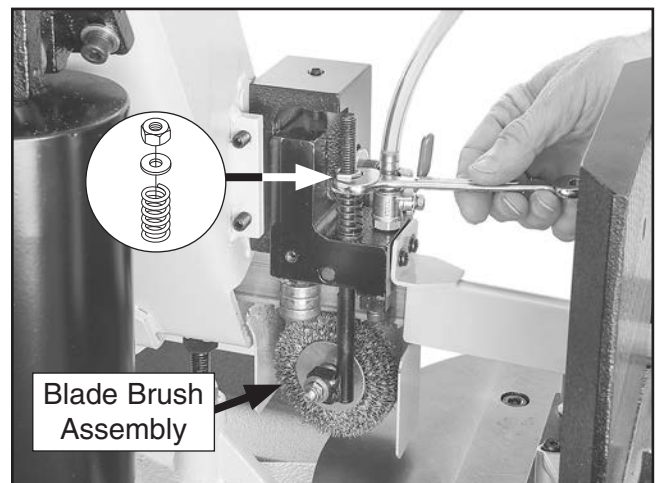

Figure 32. Example of removing blade brush assembly.
6. Remove hex nut, flat washer, and spring shown in **Figure 32** to remove blade brush assembly.